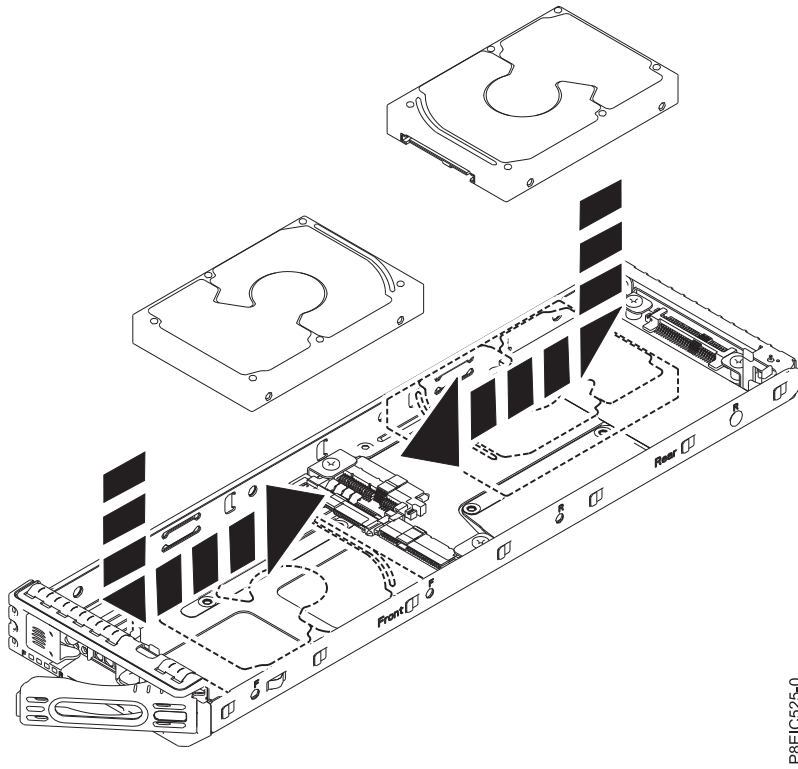

Figure 14. Installing the 2.5 inch drive into the tray
- a. Place the drive in the tray, then slide the drive into the socket, as shown in Figure 14.